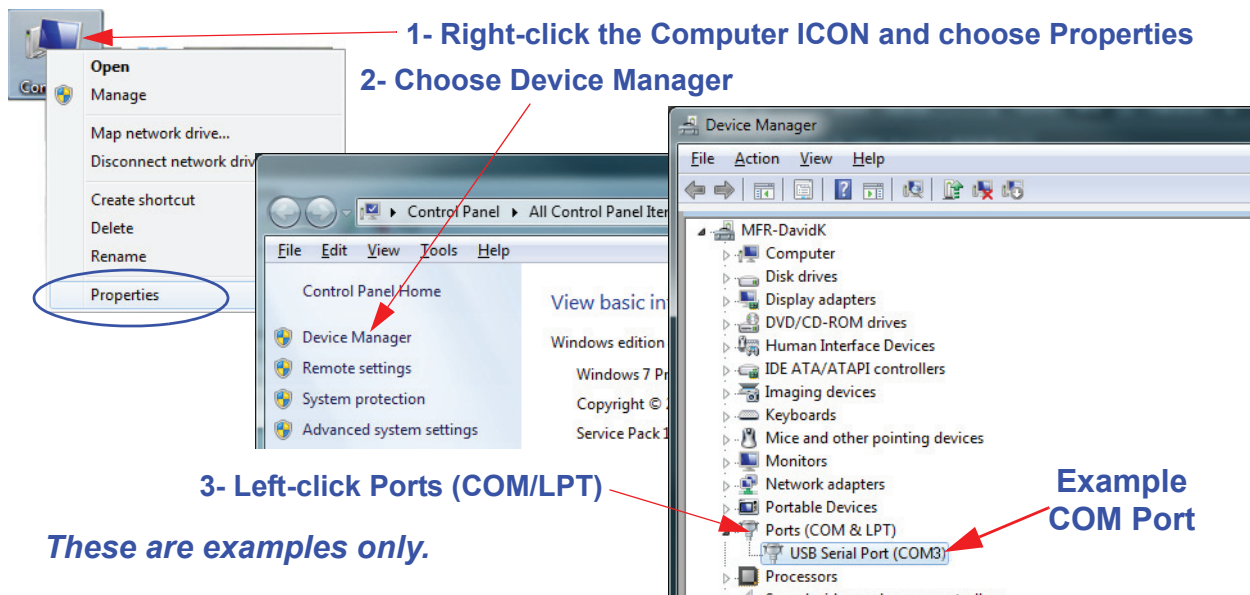

Figure 3-2 Viewing COM Port Assigned
- View the COM port assigned by using *Computer|Properties|Device Manager*. It will show as a USB Serial COM Port with a COM port number (see Figure 3-2).